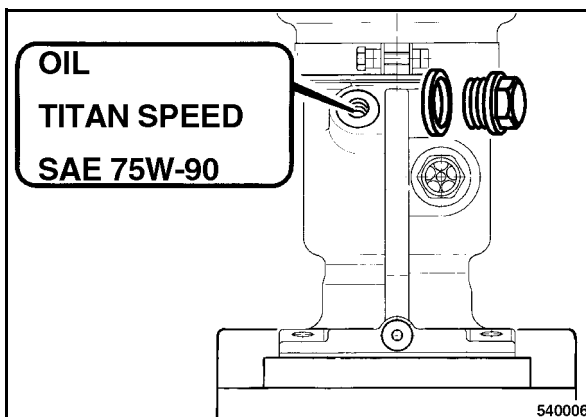

Fig. 57
- Clean the filler plug (Fig. 57) and unscrew it.